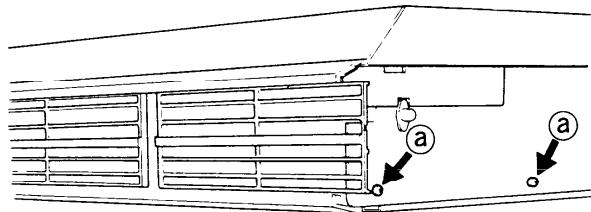

Fig. 7
- (4) Slide the discharge grille at the unit front about 0.38" to the side, remove it, and remove the screw (black color) at the center on the inside.
- (5) Remove the four screws **a** at the lower part on both sides. Fig. 7